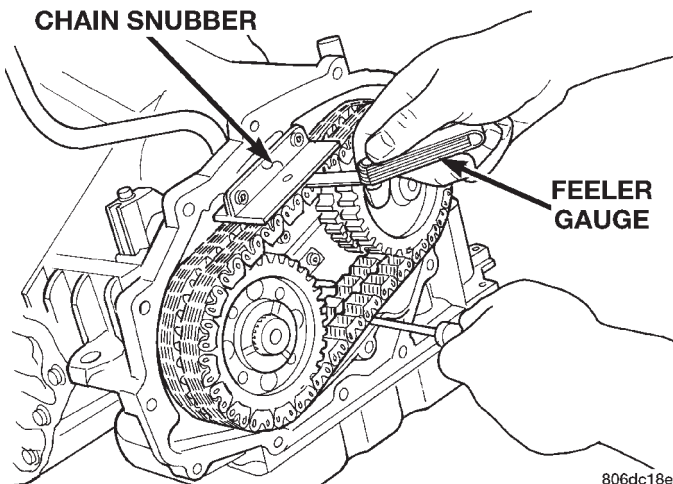

Fig. 355 Chain to Snubber Gap
(1) Insert screwdriver into the 18 mm hole below the chain and pry up on chain to remove slack in chain.
(2) Using a feeler gauge, measure the gap between the snubber face and the top of the chain (Fig. 355).